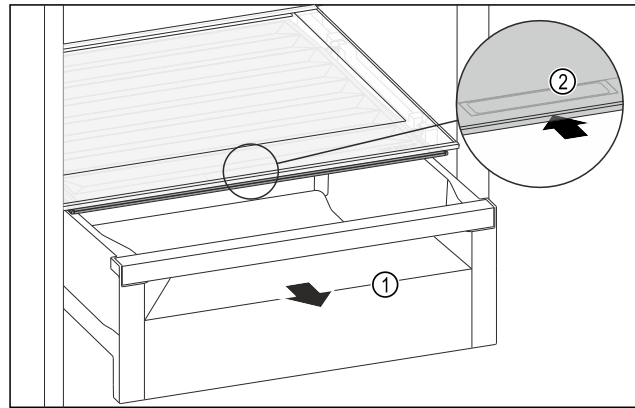

Fig. 104
- ▶ Pull out the drawer Fig. 104 (1).
- ▶ Grasp the recessed grip Fig. 104 (2) on the compartment lid and push the compartment lid backwards at the same time.